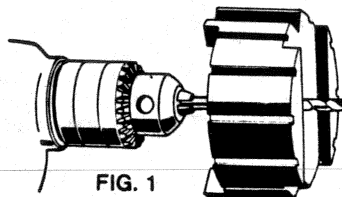

FIG. 1
2. Place the drill guide over the drill bit as shown in figure 1.